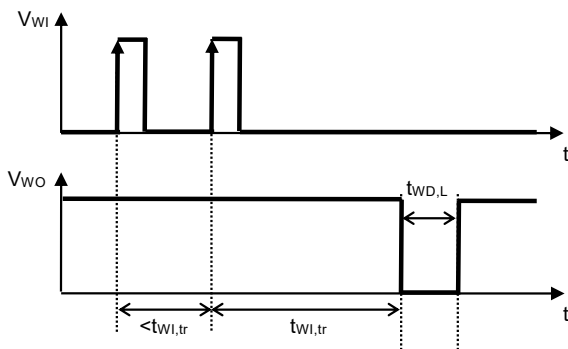

Figure 10 Watchdog Trigger Time
*1. The time when the WO pin continues "L" after the watchdog timer detects a time-out or double-pulse (Refer to **Figure 10**). This value changes according to C_{DLY} .
*2. The time from when the watchdog timer initiates the detection of a trigger signal to when a time-out is detected and the WO pin output changes to "L" (Refer to **Figure 10**). This value changes according to C_{DLY} .